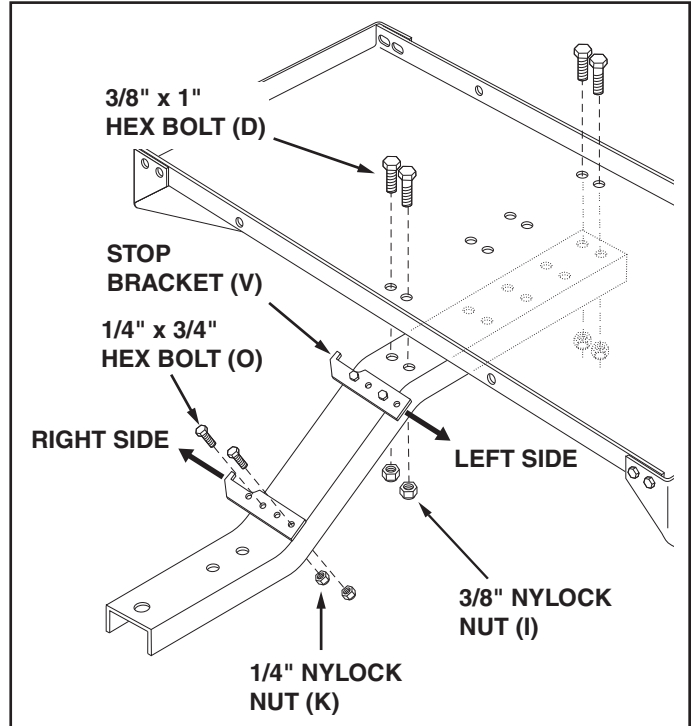

FIGURE 6
6. Assemble the tongue to the tray using four 3/8" x 1" hex bolts (D) and 3/8" nylock nuts (I) as shown in figure 6. **Tighten.**
7. Assemble the two stop brackets (V) to the tongue using four 1/4" x 3/4" hex bolts (O) and 1/4" nylock nuts (K). Position the bottom bracket as far to the right side as possible. Position the top bracket as far to the left side as possible. **Tighten.** See figure 6.